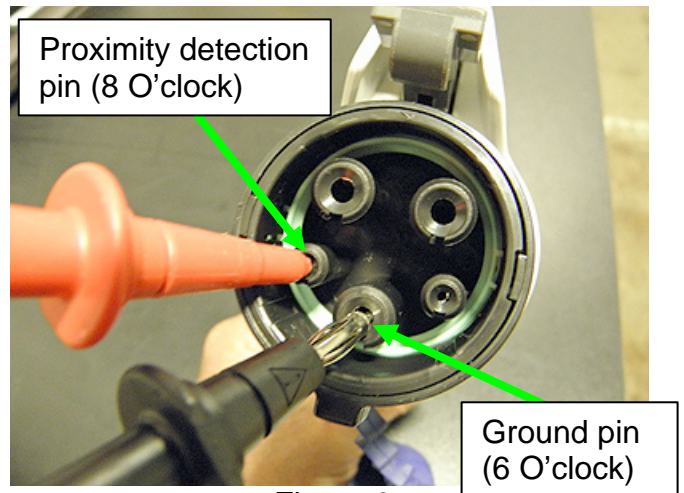

Figure 6
- a. Measure the resistance at the EVSE charge connector with a Multimeter between the proximity detection pin (8 O’clock) and the ground pin (6 O’clock) as shown in Figure 6.